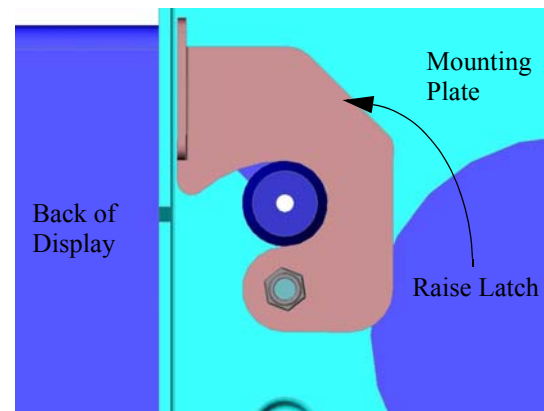

Figure 8. Engage Latching Flag
5. Secure the display by completely engaging all the Q-latch openings on the mount (see Figure 8).